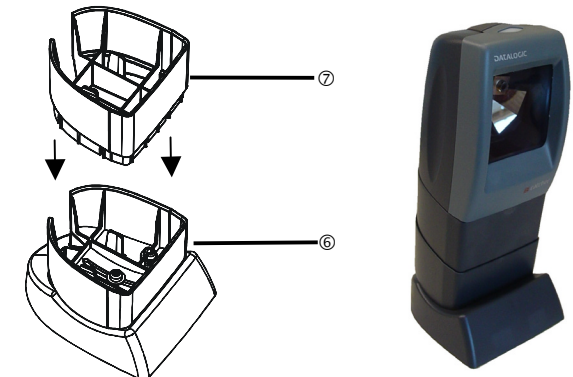

Figure 5
Insert the spacer support ⑦ onto the stand positioning support ⑥ as shown in Figure 5.